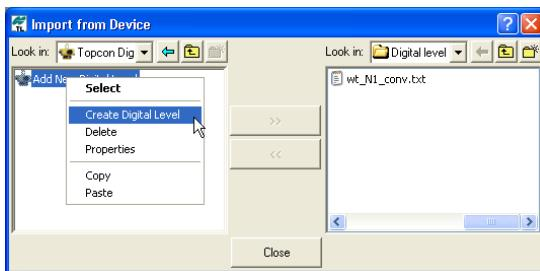

Figure 2-34. Creating a New Digital Level
3. To add a device, select *Add New Digital Level*, then select *Digital Level* on the pop-up menu (Figure 2-34).